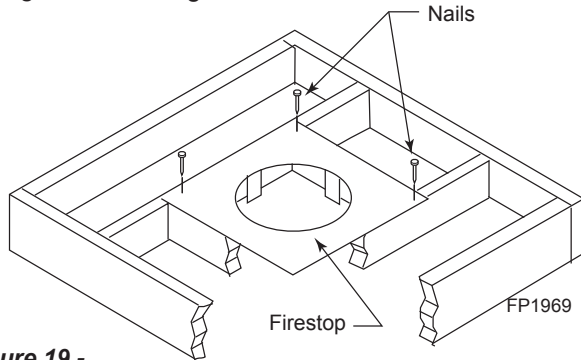
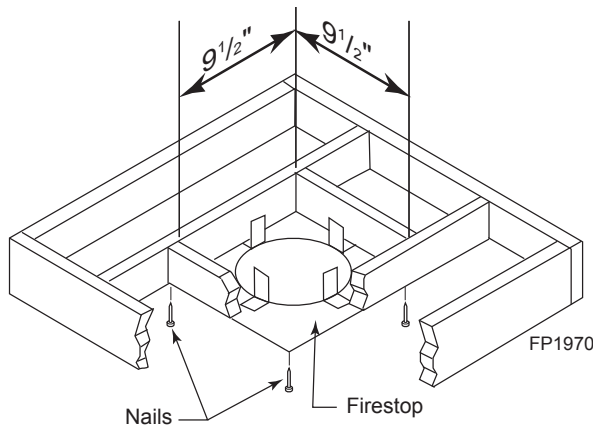

Figure 19 -
Figure 20 - If area above is not a room, install firestop below framed hole as shown
1. Cut a 9½" (241 mm) square hole in the ceiling using the locating hole as a center point. The opening should be framed to 9½" x 9½" (241 x 241 mm) inside dimensions as shown in *Figure 20* using framing lumber the same size as the ceiling joist. If the area above the ceiling is an insulated ceiling or a room, nail firestop from the top side. This prevents loose insulation from falling into the required clearance space. *Figure 19*. Otherwise, install firestop below the framed hole. The firestop should be installed with no less than three nails per side. *Figure 20*.